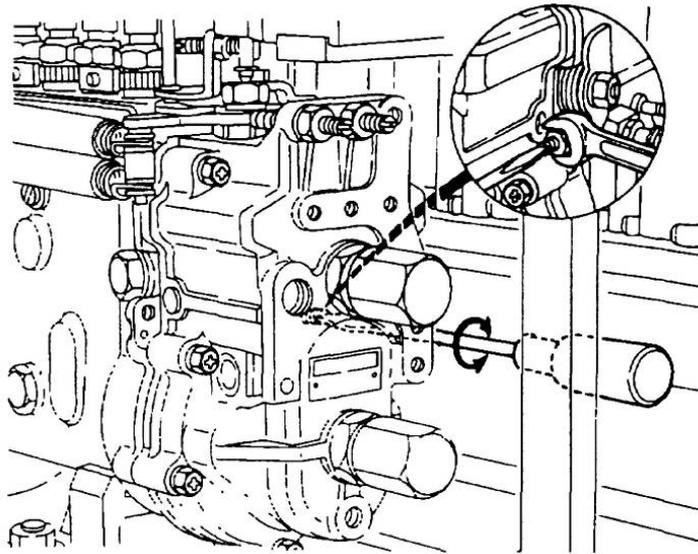

Figure 127 Adjustment of the Full-load Setting Bolt
- s.** Decrease the pump speed to 1120 rpm and adjust the full-load setting bolt to bring the control rack to 11.3 mm, tighten the locknut securely (Figure 127).